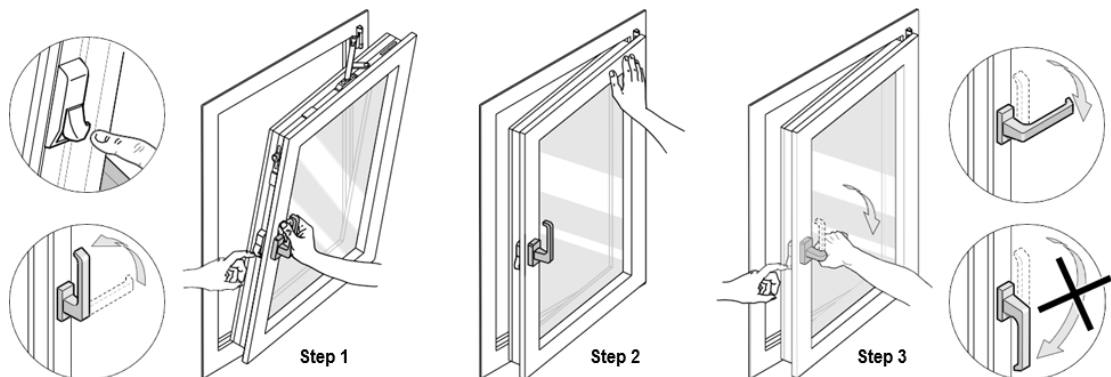

Figure 2-23.
Step 1 Depress the fail safe switch and turn the handle to the tilt position. See fig. 2-23.